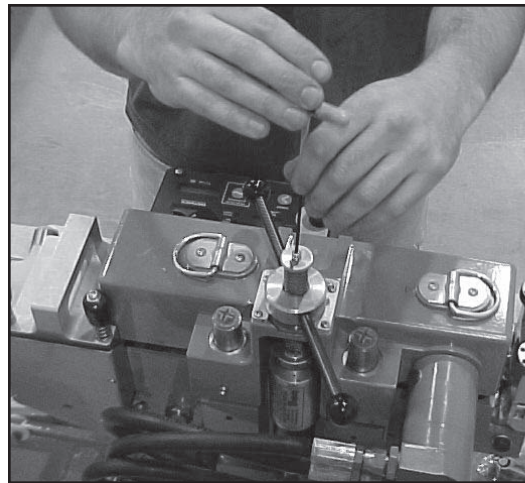

Figure 23
9. Replace washer and screw (Figure 23)